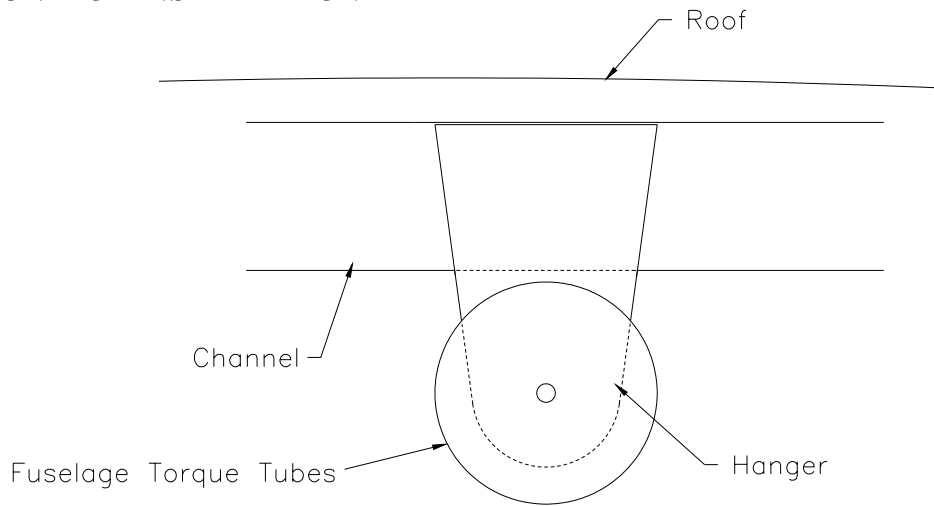

Figure 20.6.7
16) Align all torque tubes so that there is no binding at the pivot points. Locate the hanger (CC-78) position on the channel on the roof. Clamp the hanger onto the channel. Figure 20.6.7.